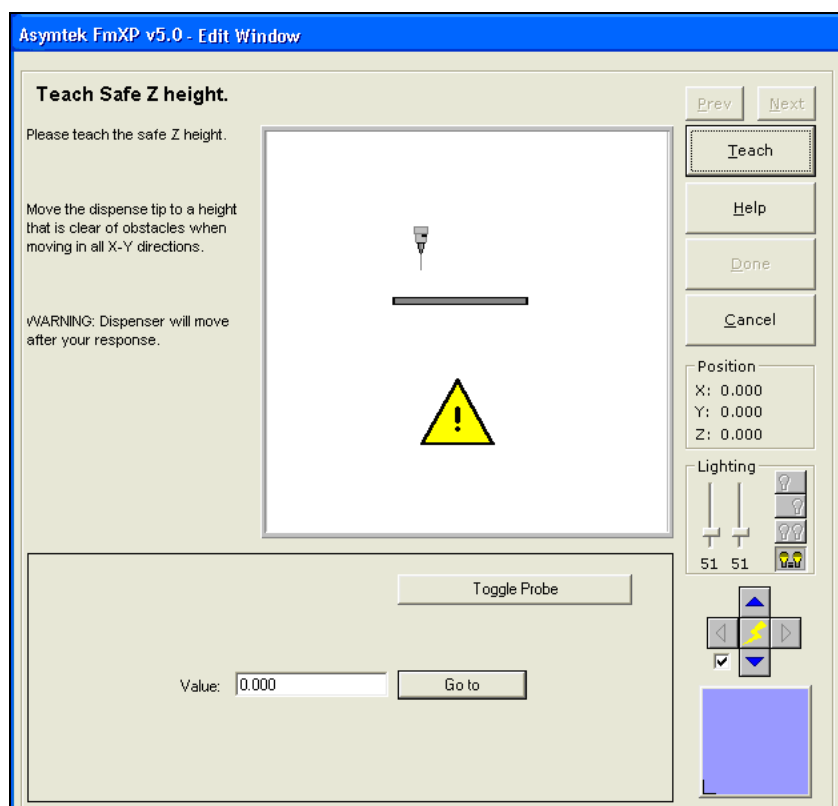

Figure 3-5 Teaching Safe Z-Height
- The Teach Safe Z-Height Window shown in Figure 3-5 opens.